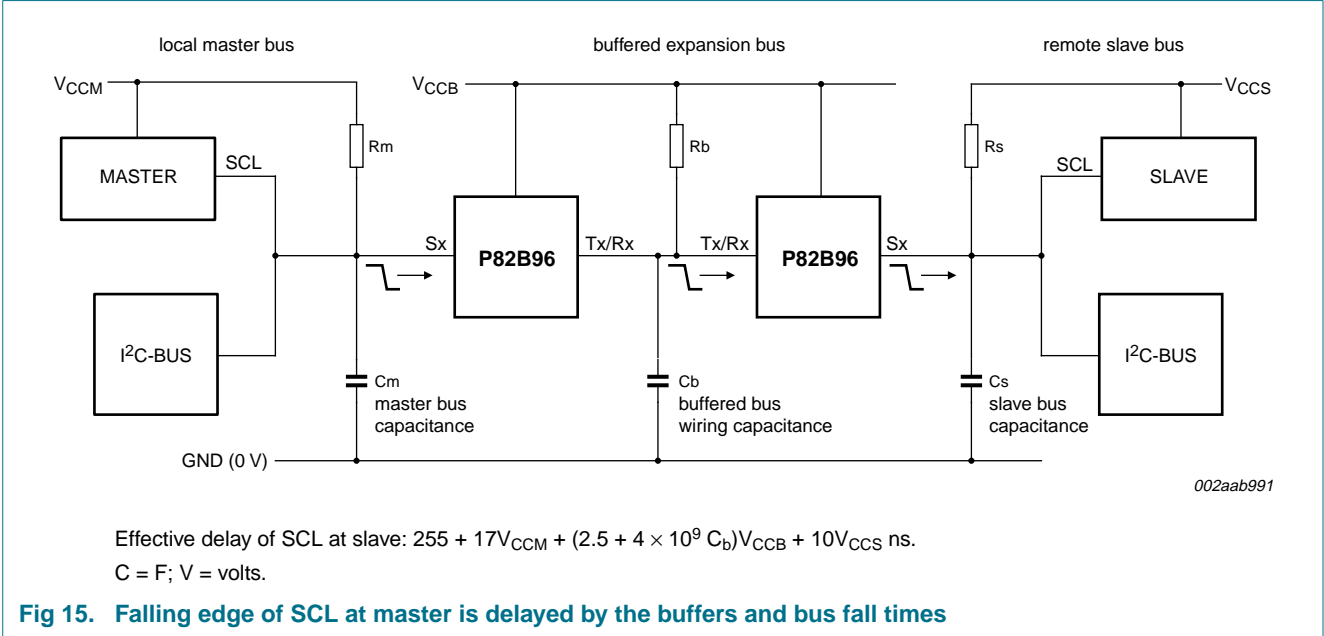
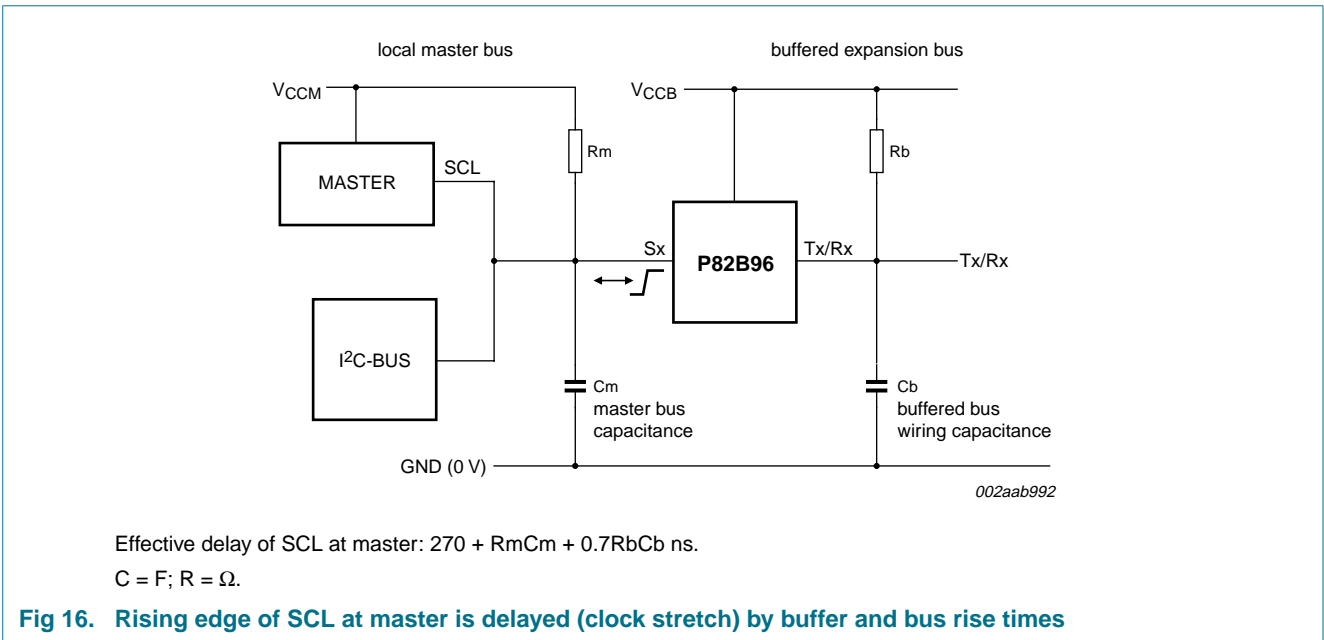
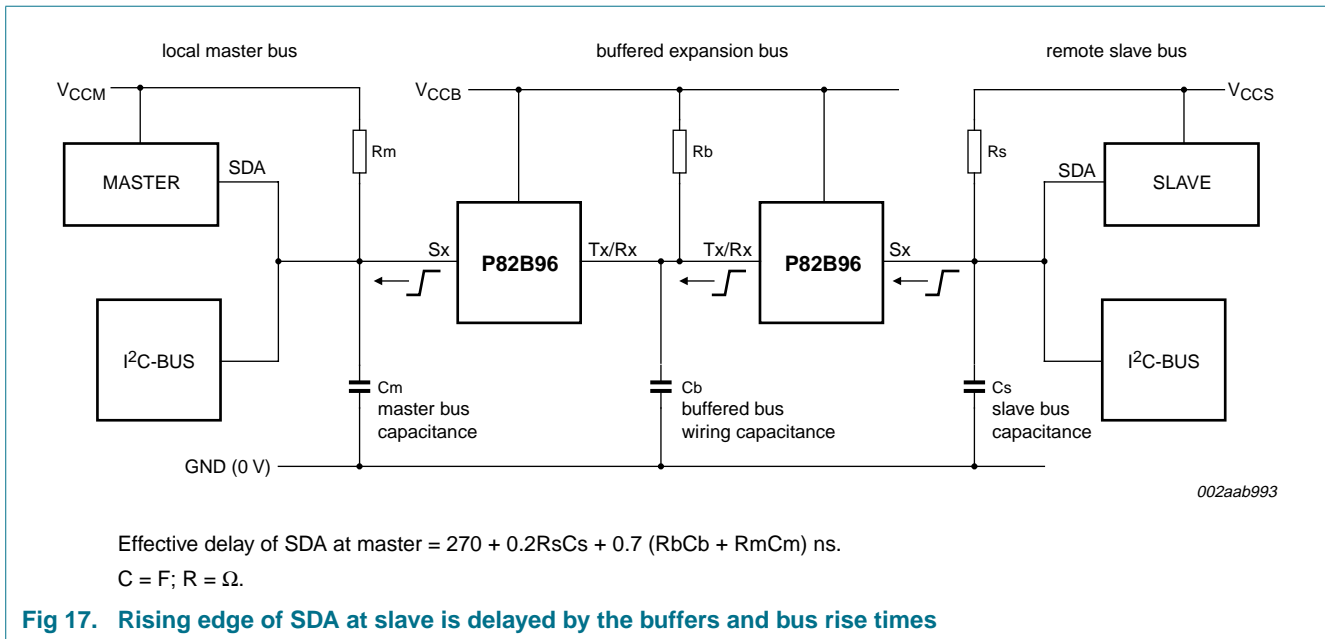

Fig 15. Falling edge of SCL at master is delayed by the buffers and bus fall times
Fig 16. Rising edge of SCL at master is delayed (clock stretch) by buffer and bus rise times
Fig 17. Rising edge of SDA at slave is delayed by the buffers and bus rise times
Figure 15, Figure 16, and Figure 17 show the P82B96 used to drive extended bus wiring, with relatively large capacitance, linking two Fast mode I2C-bus nodes. It includes simplified expressions for making the relevant timing calculations for 3.3 V or 5 V operation. Because the buffers and the wiring introduce timing delays, it may be necessary to decrease the nominal SCL frequency below 400 kHz. In most cases the actual bus frequency will be lower than the nominal Master timing due to bit-wise stretching of the clock periods.
- A** — The propagation delay of the master signal through the buffers and wiring to the slave. The important delay is that of the falling edge of SCL because this edge ‘requests’ the data or acknowledgment from a slave. See Figure 15.
- B** — The effective stretching of the nominal LOW period of SCL at the master caused by the buffer and bus rise times. See Figure 16.
- C** — The propagation delay of the slave’s response signal through the buffers and wiring back to the master. The important delay is that of a rising edge in the SDA signal. Rising edges are always slower and are therefore delayed by a longer time than falling edges. (The rising edges are limited by the passive pull-up while falling edges are actively driven). See Figure 17.
edge from the master reaching the slave (Figure 15) minus the effective delay (stretch) of the SCL rising edge (Figure 16) plus total delays in the slave's response data, carried on SDA, reaching the master (Figure 17).